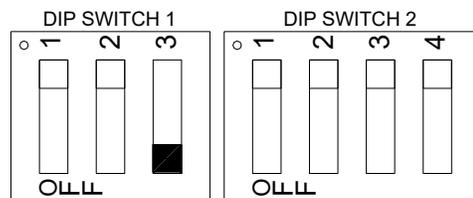

Figure 9
- Output transistor will be ON, when detecting tote (sensor ON) (Figure 9)